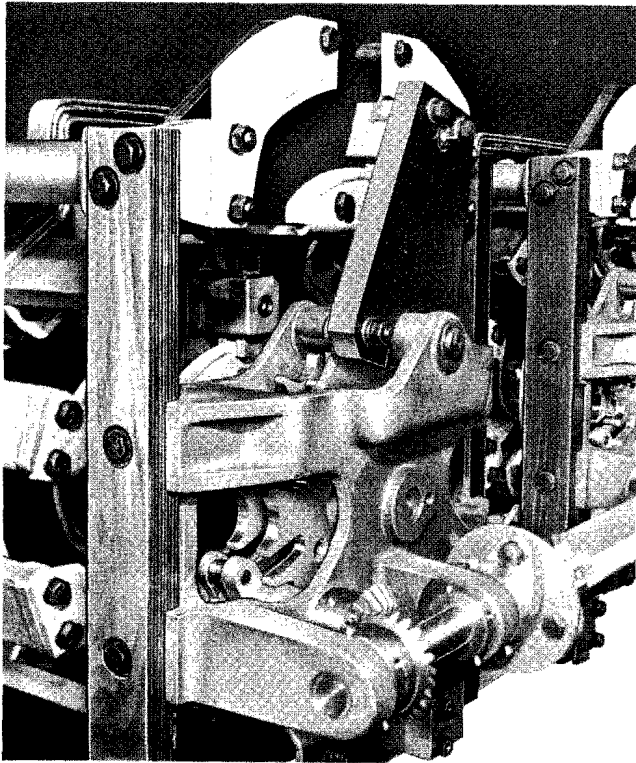

Fig. 4 "URT" Tap Changer Selector Switch
4. The moving selector contacts are both vertically upward and connected to stationary contact R. See Fig. 4 and Sequence Chart Fig. 5.